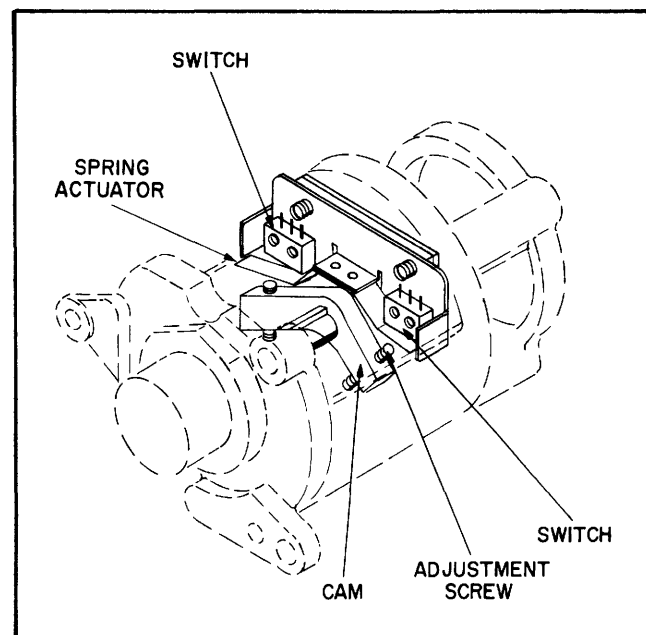

Figure 4-5. Tape Load and Tape Break Limit Switches
**4-2-6-1.** The tape load and tape break switches are located in the tension arm potentiometer casting shown in figure 4-5. Note the adjusting screw which presses the spring actuator against the plunger on the switch when the tension arm is at either end of its range. The drawing illustrates the position of the cam when the tension arm is between its range limit (neither switch being actuated).